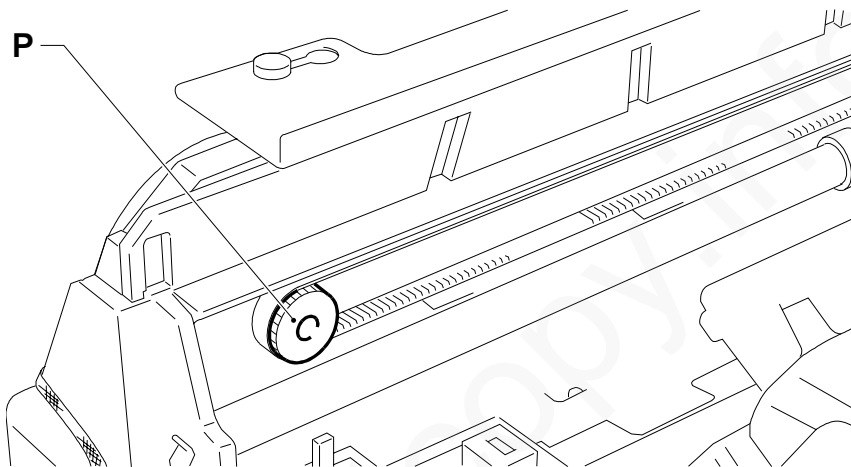

Fig. 7-34
- 2) Disconnect the belt from sprocket **P** of the motor (Fig. 7-34):